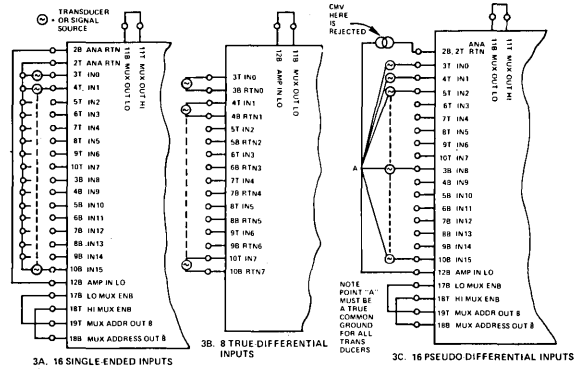

Figure 3. Signal Input Connections for Three Different Configurations
As shown in Figure 3, three input configurations can be used. 16 single-ended inputs (3a) can be connected to the multiplexer, all referenced to analog gnd. In the second configuration (3b), the inputs are connected individually as 8 true differential pairs. In this case the differential amplifier is connected "Differentially" with the output of the MUX. Finally, a "Pseudo-Differential" connection (3c) can be realized under favorable ground path conditions. In this configuration the differential amplifier Lo terminal is used as the ground return
3. To minimize signal grounding problems, single-ended input signals should only be returned to ANA RTN (Pin 2B or 2T). If this is not possible, then connect the input signals in either the "true differential" or "pseudo-differential" configurations (see Figure 3).